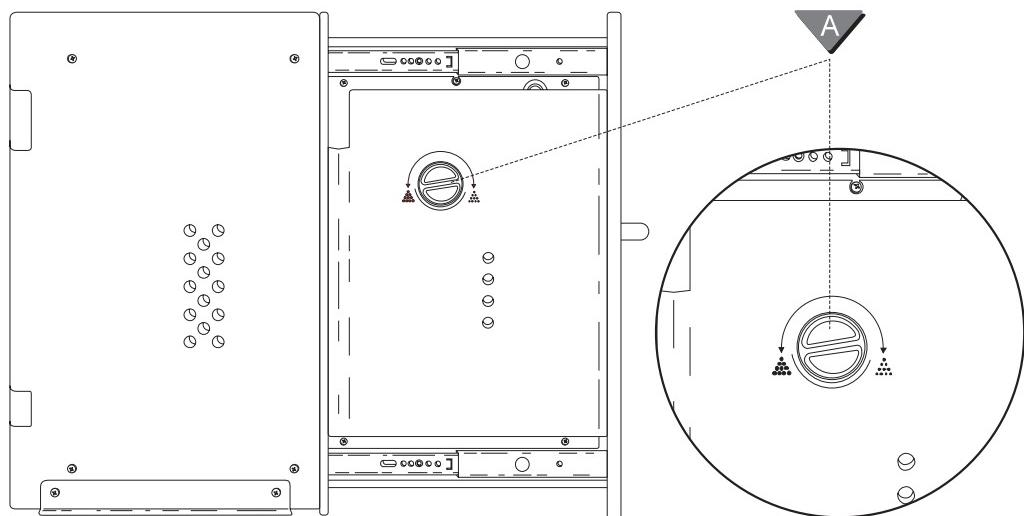

Fig. 5
- Turn knob A on the left of the machine (Fig. 5) carefully and slowly.